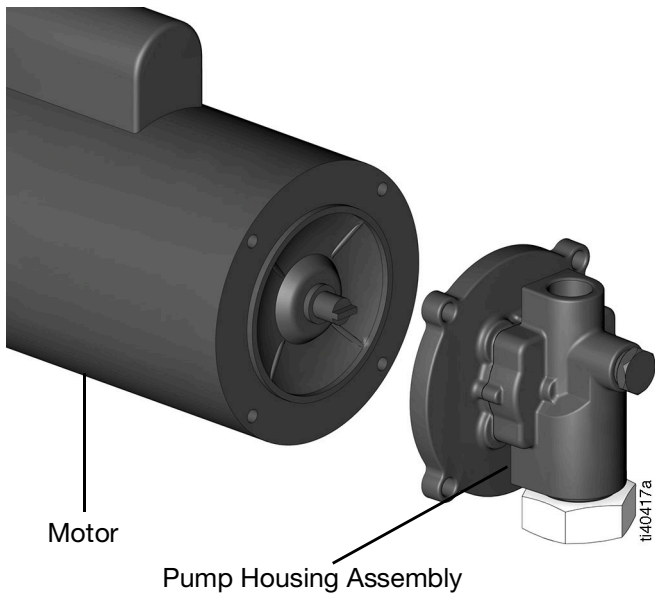

FIG. 8
6. Remove the pump housing assembly from the motor (FIG. 8).